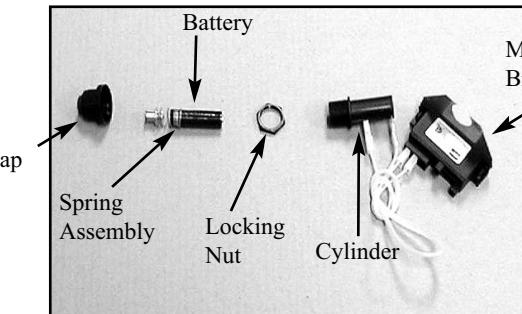

Fig. 5
1. Remove the ignitor cap, spring assembly, battery and lock nut from ignitor. (See Fig. 5)